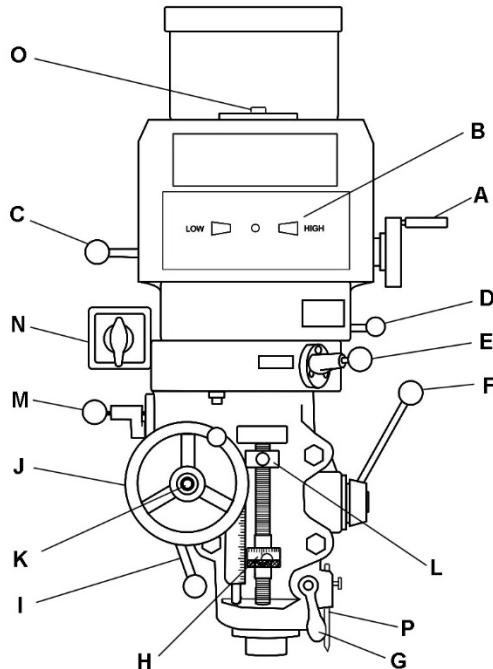
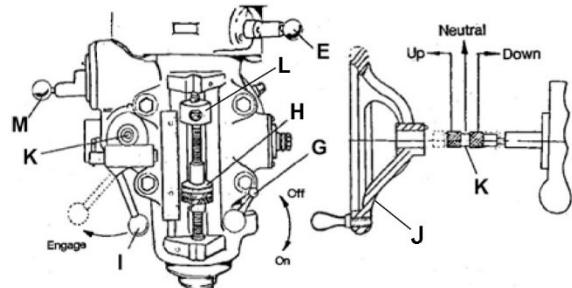

Figure 9-1: Controls
Figure 10-3: Manual feed controls
8. Remove any rust proofing from drawbar (O, Figure 9-1) and its washer, and place drawbar with washer installed into spindle center through top of machine.
9. Slide fine feed handwheel (J, Figure 9-1) over handwheel hub and push it back until its roll pin engages hole in the hub and handwheel is flush with hub surface.
10. Place coarse feed handle (F, Figure 9-1) on feed shaft and tap it lightly until its roll pin engages a hole in the hub. Tighten set screw to secure handle.
Refer to Figure 9-1.
- A. **Variable speed control (A, Figure 9-1)** – Turn handwheel to adjust spindle speed.
- B. **Variable speed dial indicator (B)** – Indicates selected speed in high or low range.
- C. **Spindle brake (C)** – Move in either direction to stop spindle *after power has been turned off*.
- D. **Speed range lever (D)** – Push handle inward and move to desired position. Upper position is high speed. Middle position is neutral. Low position is low speed (back gear engagement). A label is affixed near the lever for reference.
**CAUTION** Do not move Speed Range Lever (D) while motor is running. Turn off machine and rotate spindle by hand to facilitate changing lever positions.
- E. **Auto feed engagement lever (E)** – To engage auto feed, stop spindle, then pull knob outward and move lever to opposite hole. Engage pin in hole. A label is affixed near the lever for reference.
- G. **Quill lock (G)** – Rotate handle clockwise to lock quill in desired position; counter-clockwise to release.
- H. **Micrometer adjusting nut (H)** – Used for setting spindle depth, according to adjoining scale. Press button to rapidly slide nut for general positioning. Release button and rotate nut for fine adjustment. **Note:** One complete rotation of micrometer adjusting nut equals 0.025" (0.635mm) of spindle travel.
- I. **Feed trip control lever (I)** – Engages overload clutch on pinion shaft when lever is positioned to the left. Stays engaged until quill stop comes into contact with micrometer adjusting nut (forcing feed control lever to drop out automatically), or until lever is released manually by moving lever to the right.
- J. **Manual fine feed handwheel (J)** – Feed direction control knob (K) must be in neutral position. The feed control lever (I) must be engaged. **Note:** Manual feed handwheel may be removed when not in use.
- K. **Feed direction control (K)** – located in center of manual feed handwheel. Position of knob depends upon direction of spindle rotation. If boring with right hand cutting tools, pull feed knob towards operator until clutch becomes engaged. Neutral position is between forward and reverse position.
(Refer to Figure 10-3 and accompanying text for further detail.) If control does not engage easily, move handwheel (J) back and forth to aid engagement.
To change from high to low speed range, push in lever (D, Figure 9-1) and rotate it almost 180 degrees. Lever will stay in position once pressure is released.
Refer to Figure 10-3.
1. Disengage auto feed by pulling out knob (E, Figure 10-3) and moving lever to left hole.
2. Position feed reversing knob (K) to center, or neutral, position.
3. Disengage feed trip lever (I) by pushing towards head assembly.
4. Use coarse feed handle (see F, Figure 9-1) to move spindle.
Refer to Figures 9-1 and 10-3.
1. Ensure quill lock (G, Figure 10-3) is loosened by rotating counterclockwise.
2. Set micrometer nut (H) to desired depth.
3. Engage auto feed lever (E) by pulling out knob and moving lever to the right hole.
4. Select feed direction by setting feed direction knob (K) position per Table 4.